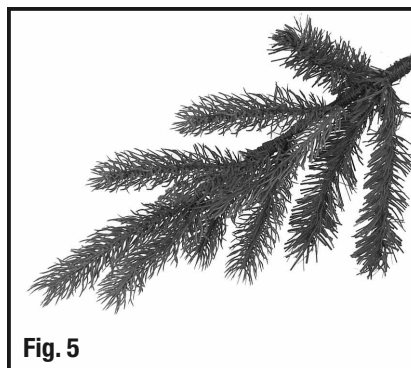

Fig. 5
5. As you work your way up branch rows, the wing tip style branches will diminish, but branches will otherwise shape similarly. Figure 5 shows a fully shaped branch without wing tips.